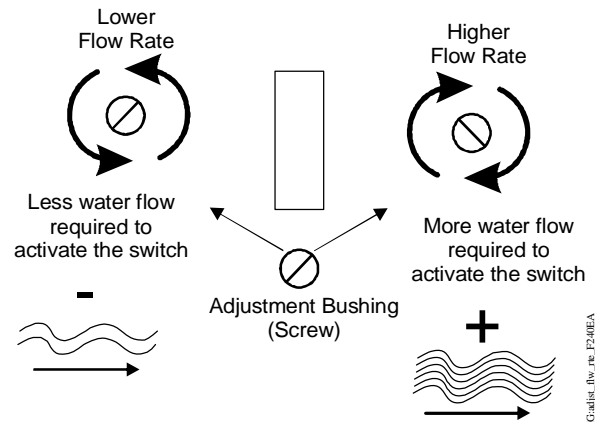

Figure 10: Flow Rate Adjustment
2. Adjust the control's flow rate (Figure 10):
Turn the adjustment screw **clockwise** to **raise** the flow rate required to activate the switch. See Figure 10.